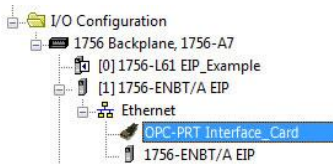

Figure 31: AOP Interface Card I/O Configuration
- 14) You should now see the interface card in the 1756-ENBT/A branch under the I/O Configuration in the controller organizer view. The full I/O Configuration tree should appear similar to Figure 31.